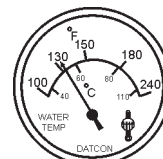

Figure 47. Coolant Temperature Gauge
11. The **coolant temperature gauge** (Figure 47) will indicate the coolant temperature. Under normal operating conditions the coolant temperature should be between 165°~215°F (74°~102°C) (**Green Zone**).